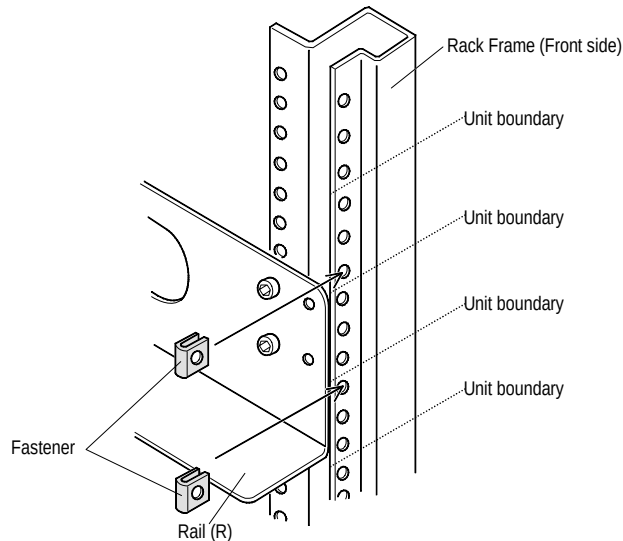
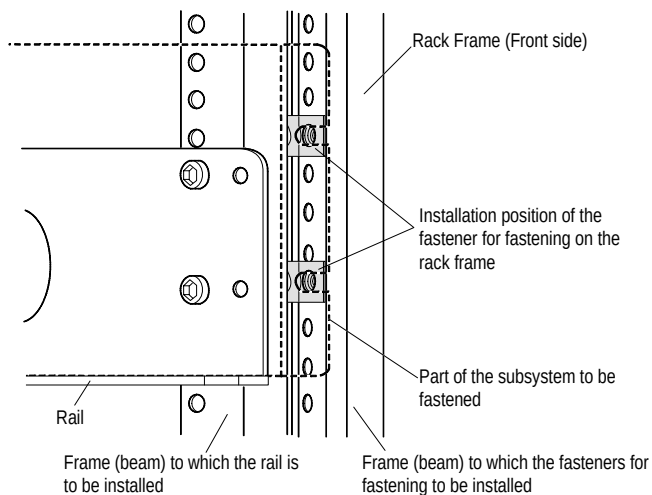

Figure 5.14.22 Installing Fasteners on the Front Side of the Rack Frame
Figure 5.14.23 Installation Positions of Fasteners and Relation with Rails
- (a) Fit the two fasteners to each of the right and left beams on the front side of the rack frame referring to Figure 5.14.22 and Figure 5.14.23.